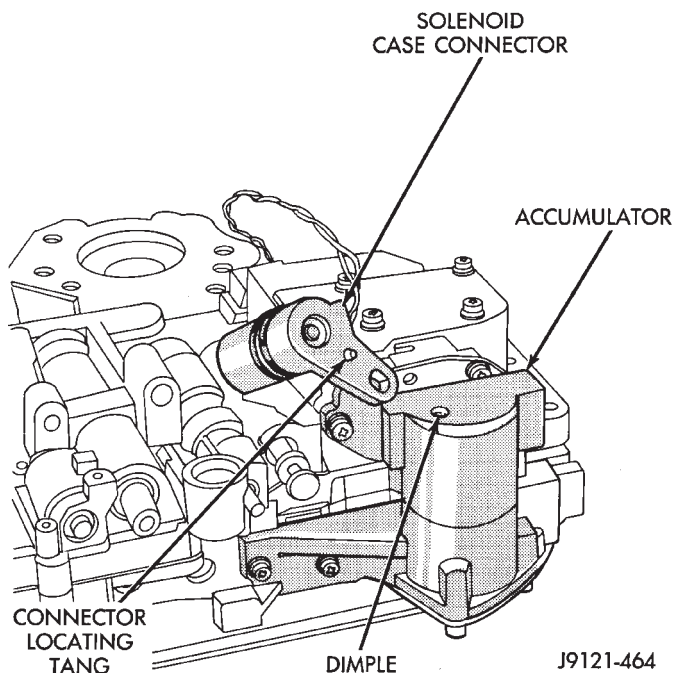

Fig. 124 Solenoid Connector Installation—46RH
- (6) Attach solenoid case connector to 3-4 accumulator with shoulder-type screw. Connector has small locating tang that fits in dimple at top of accumulator housing (Fig. 124). Seat tang in dimple before tightening connector screw.
(7) Install solenoid assembly and gasket. Tighten solenoid attaching screws to 8 N•m (72 in. lbs.) torque.